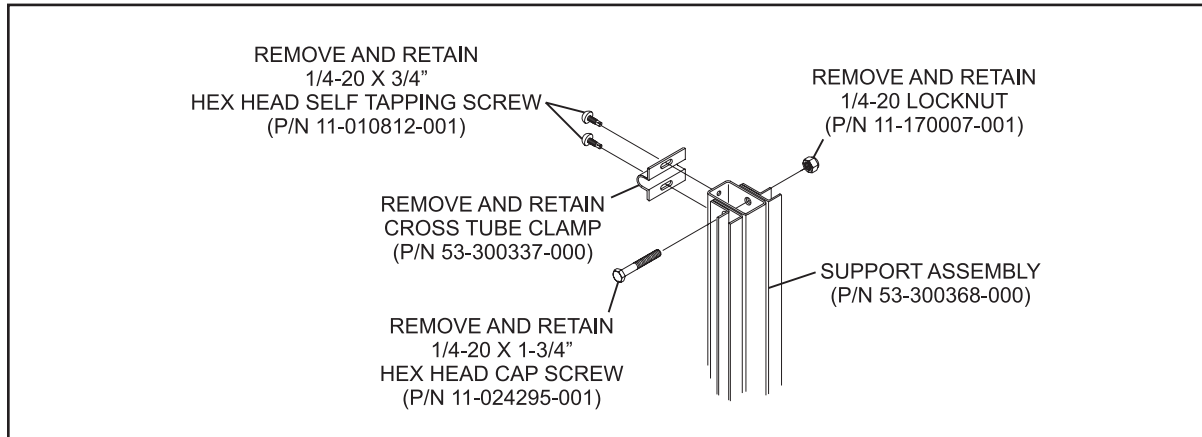

Figure 9
1. Remove cross tube clamp and retain for reinstallation during the “Intermediate Support Installation” further along in the installation. Refer to *Figure 9*.